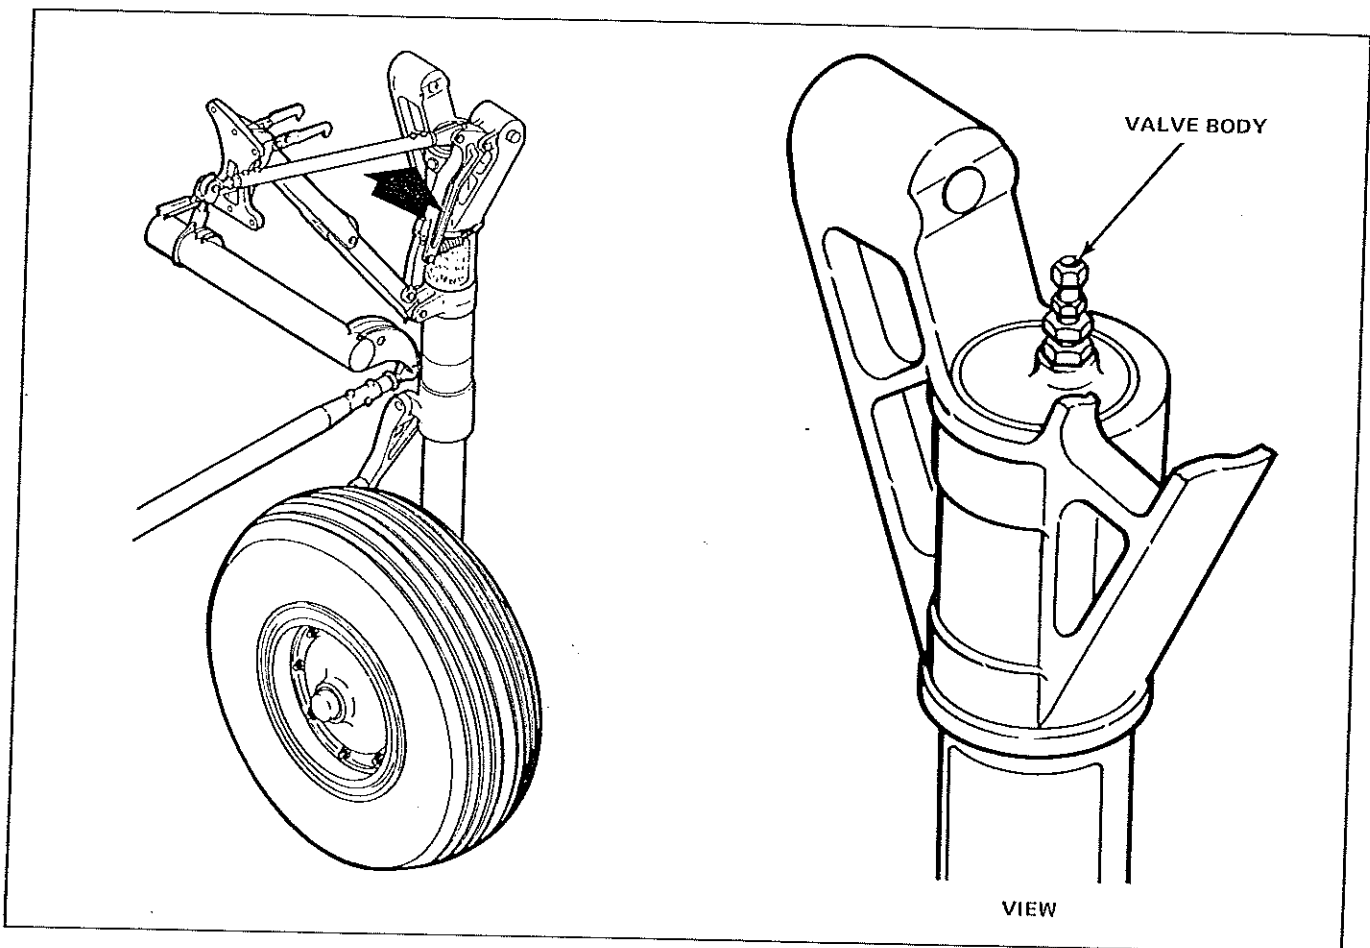

Figure 15 Servicing Main Landing Gear Shock Struts
2. Deflate the strut by loosening the valve body (Figure 15) a maximum of 2 1/2 turns.